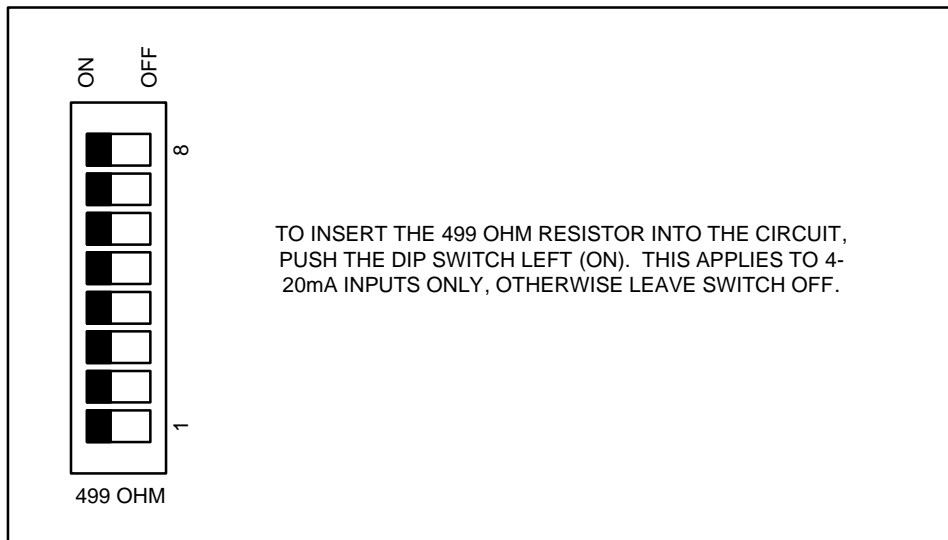

Figure 9: Universal Input 499 OHM Dip Switch Operation
The 499 OHM set of switches (right switch module) inserts a 499 ohm resistor across a corresponding input, and is used with a 4-20ma sensor only. This switch eliminates the need to physically install a resistor across the input terminals. Slide switch right (ON) to install this resistor. **Figure 9** shows the settings for the 499 OHM switches.